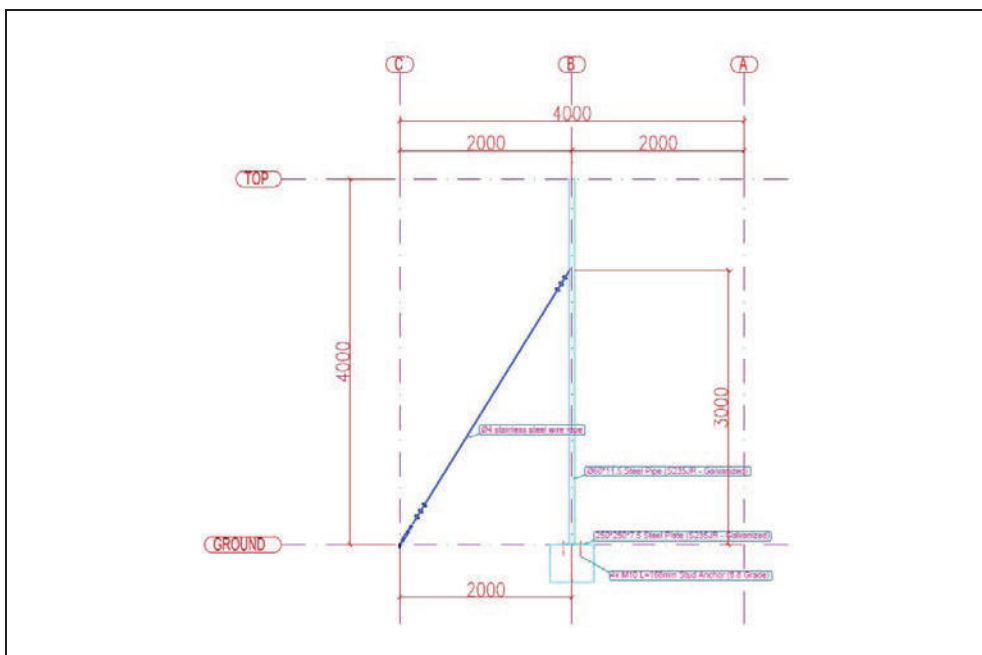

Fig. 5: Suitable guying system
- ▶ Brace the vertical mast (see Fig. 5)